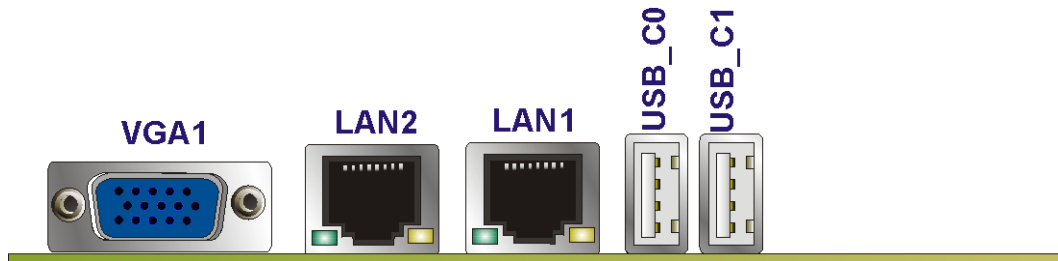

Figure 4-14: 3307675 External Peripheral Interface Connector
Figure 4-14 shows the 3307675 external peripheral interface connector (EPIC) panel. The 3307675 EPIC panel consists of the following:
CN Location:	See Figure 4-14
**CN Location:** See Figure 4-14